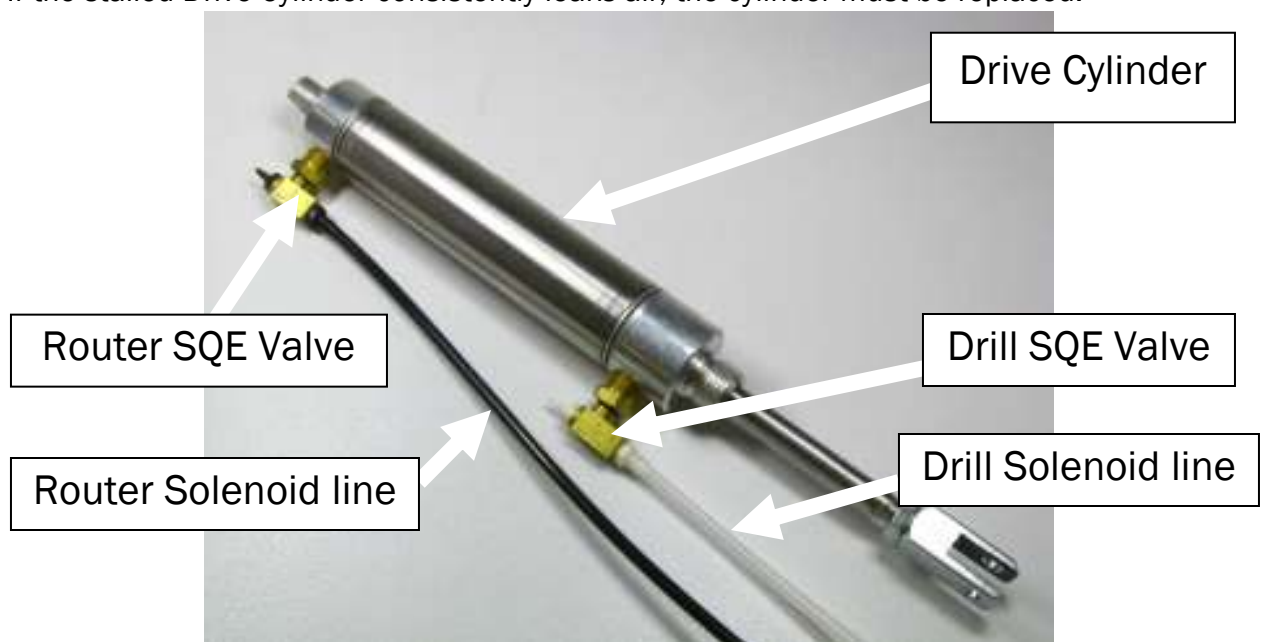

Figure 24
4. Listen for constant hissing and feel for leaking air at the open barbs on the SQE valves (or at the exhaust ports of the Rout Solenoid and the Drill Solenoid). **See fig. 24**
11. Listen for constant hissing and feel for leaking air at the open barbs on the SQE valves (or at the exhaust valves of the Router and the Drill Solenoids). **See fig. 24.**